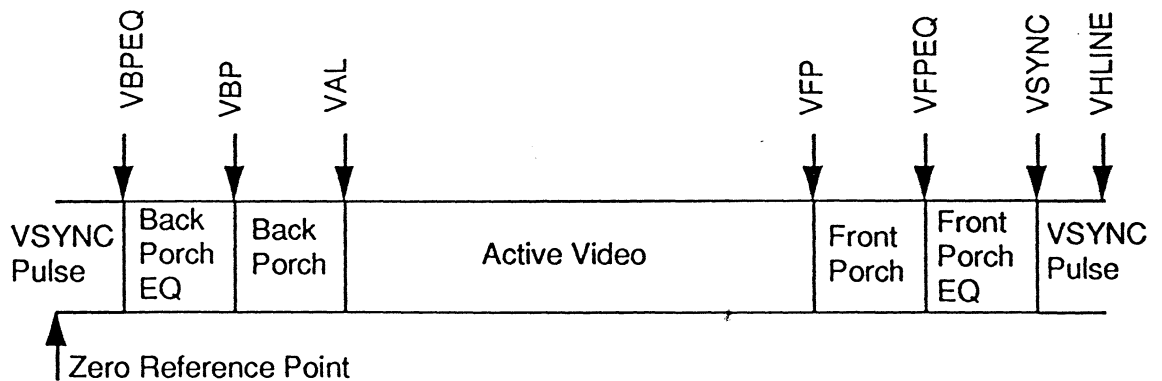

FIGURE 61. SWATCH VERTICAL TIMING STATES
6.6.2.3 Switch Vertical Timing Registers: The vertical timing generator is driven from a clock which is only half the frequency of the horizontal timing generator clock. However, vertical state transitions can only occur at intervals of half a horizontal line (i.e., at the beginning and middle of a line). Vertical timing is specified by a number of parameters which control when transitions between different states in a video field occur. These parameters and states are shown in Figure 61 below: